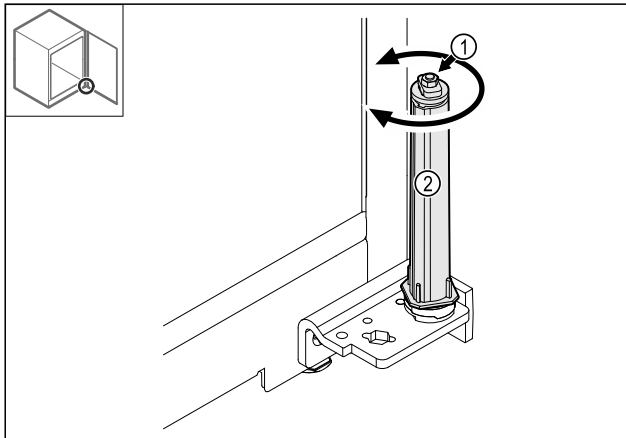

Fig. 41
- ▶ Do not dismantle the screw connection Fig. 41 (1) on the locking system.
- ▶ Turn the locking system Fig. 41 (2) until it clicks.